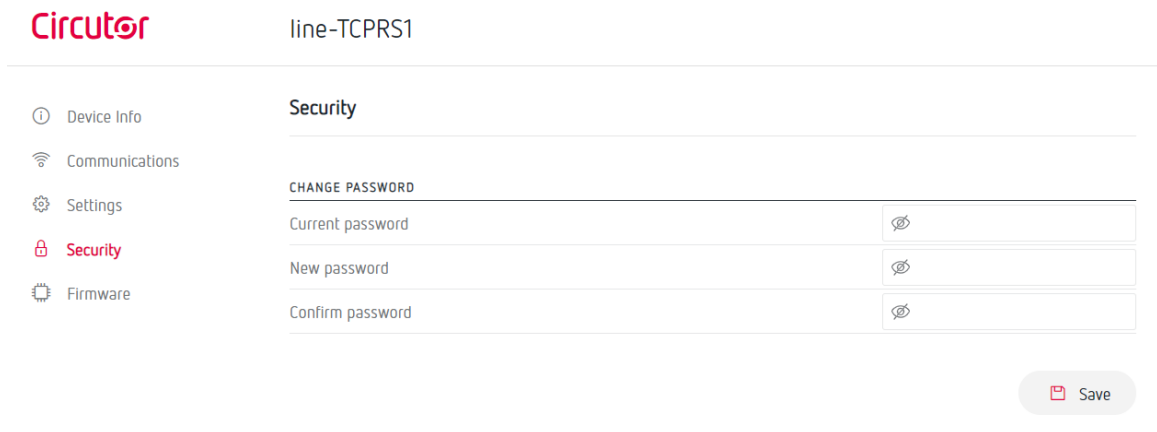

Figure 10: Website: Security.
Note: For security reasons, you need to change the login password. You can change it on the **Security** screen, **Figure 10**.
- ✓ On the **Security** screen (Figure 10) change the login password to the configuration website.